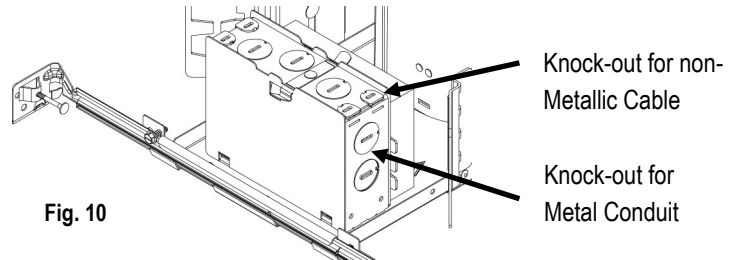

Fig. 10
3. Remove the junction box cover and attach the electrical service as follows: (Fig. 10)